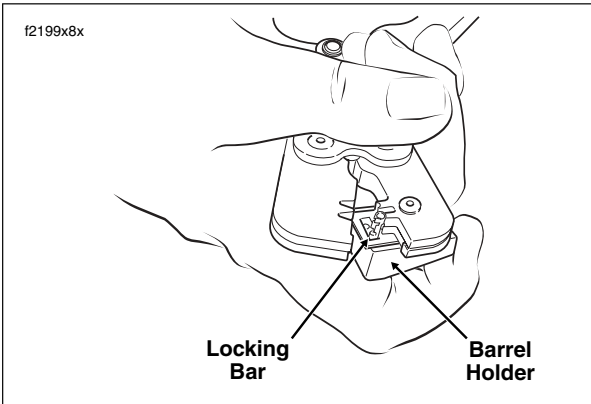

Figure B-31. Position Contact in Crimper
7. Release locking bar to lock position of contact. When correctly positioned, the locking bar fits snugly in the space at the front of the core crimp tails and the closed side of the terminal rests on the outer nest of the crimp tool. See Figure B-31.